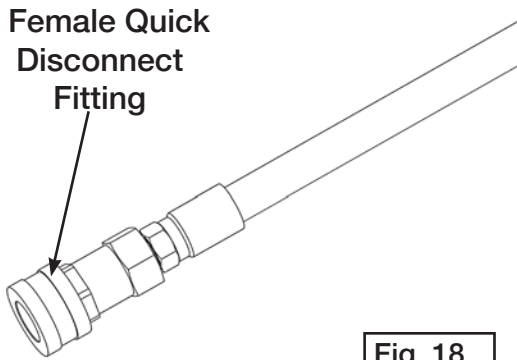

Fig. 18
3. Install the female quick-disconnect fittings at each of the other male npt hose ends. (See figure 18)